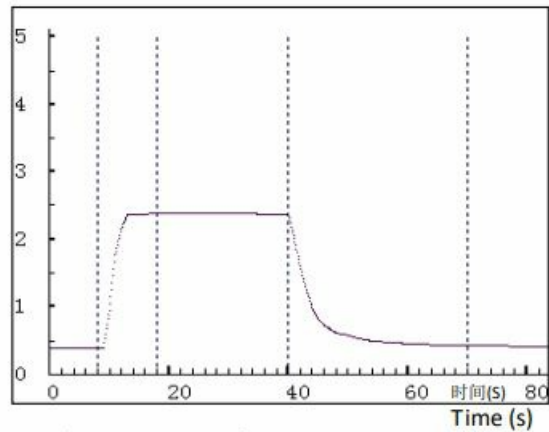

Fig5.Response and Resume
- **Fig5. Response and Resume:** This graph shows the output voltage (V) and time (s) during the response and resume of the sensor.